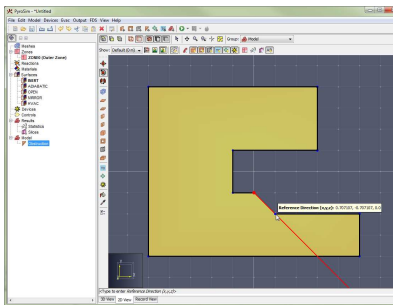

Figure 95. Define reference vector
4. Single-click another point to define a **reference vector** from the first point to the second point (Figure 95). This **reference vector** is what the angle is based from.